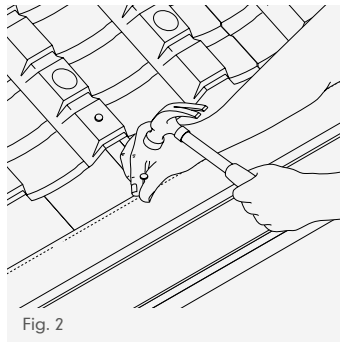

Fig. 2
- 4 Nail to top of fascia or tilting fillet using 45mm x 3.35mm (10mm OFV) or 60mm x 3.35mm (25mm OFV) aluminium nails at every nail hole position (Fig 2).